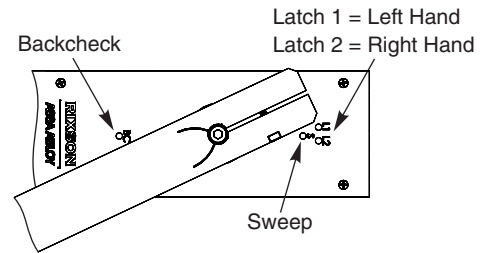

Figure 16
3. Install slider centering hub through arm into slider. (Figure 16)